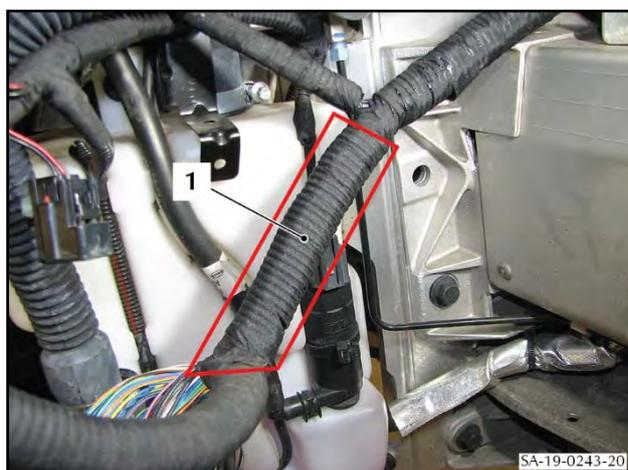

Figure 56
70. Remove the protective tape from the area of the harness (1) shown in Figure 56 to get access to the black/purple ground wire.